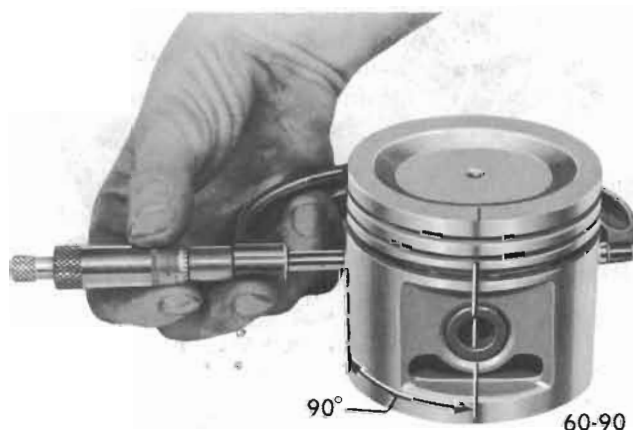

Figure 60-97 - Measuring Piston
The pistons are cam ground, which means that the diameter at a right angle to the piston pin is greater than the diameter parallel to the piston pin. When a piston is checked for size, it must be measured with micrometers applied to the skirt at points 90 degrees to the piston pin. See Figure 60-97. The piston should be measured (for fitting purposes) 1/4" below the bottom of the oil ring groove.
Before the honing or reboring operation is started, measure all new pistons with micrometer contacting at points exactly 90 degrees to piston pin (Figure 60-97) then select the smallest piston for the first fitting. The slight variation usually found between pistons in a set may provide for correction in case the first piston is fitted too free.
3. Measure the piston to be installed. See Figure 60-97. The piston must be measured at right angles to the piston pin 1/4" below the oil ring groove. The piston must be between .0008" and .0014" (350 Cu. In.) and .0007" to .0013" (455 Cu. In.) smaller than the cylinder bore.